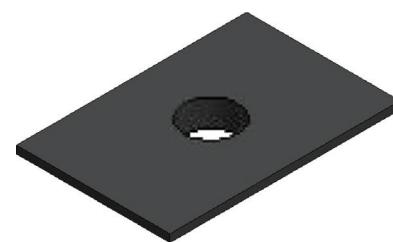
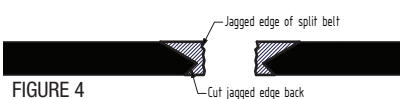

FIGURE 3
FIGURE 4
1. **Prepare surface** – Trim jagged edge of hole back to a clean surface as shown in figure 3 (bevelled edge). Grind out the repair area with a wire wheel. Ensure a profile in the rubber is produced as per figure 4.
4. **Repair the surface** – Once primer has dried secure a backing plate of tape, aluminium or similar (wax surface) as per figure 4. Fill the repair area using the Redi Repair N85 conveyor repair material